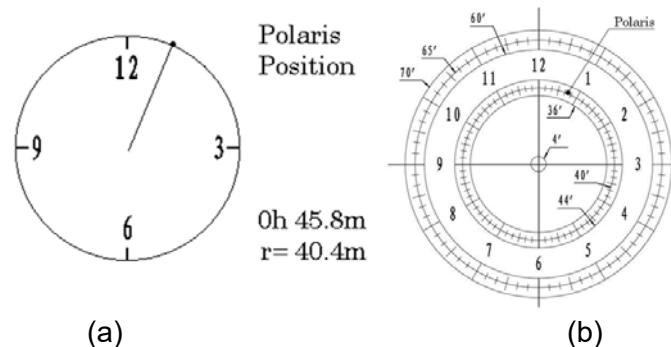

Figure 17. Polaris Position shown on HC (a) and where to put on polar scope reticle (b)
- (6) Use the Hand Controller (**MENU** => “**Alignment**” => “**Position of Polaris/SigmaOct**”) to display the current position of Polaris on the LCD screen, as indicated in the left side of the figure below. For example, on June 22, 2014, 20:19:42 in Boston, US (alt N42°30'32” and long W71°08'50”), 300 min behind UT, the Polaris Position is 0h45.8m and 40.4m.
- (7) Look through the polar scope to find the Polaris. Use the Azimuth and Latitude Adjustment Knobs to adjust the mount in both directions and put the Polaris in the same position on the Polar Scope reticle as indicated on the HC display screen. In this case, Polaris will be located at a radius of 40.4 minutes and an angle of 0h 45.8 minutes, as shown In Figure 17 (b).